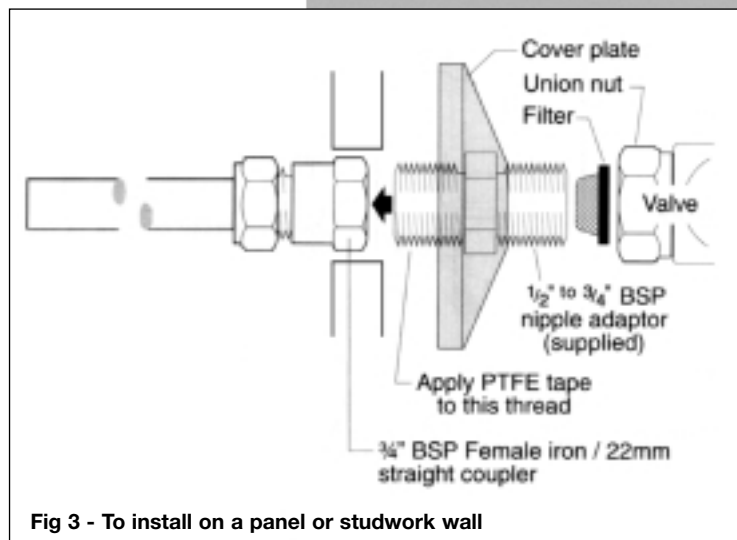

Fig 3 - To install on a panel or studwork wall
NB: The following instructions are for fitting the shower without the installation bracket (Fig 3).
- On plasterboard (studwork) or panel walls, make two holes on 150mm centres to accept the $\frac{1}{2}$ " BSP end fitting (see Fig. 3).
- On an internal rendered brick or block wall, drill two 23mm diameter holes on 150mm centres with counterbores to accept the $\frac{1}{2}$ " BSP end fitting. If 15mm pipework is used, drill 16mm holes (see Fig. 3).